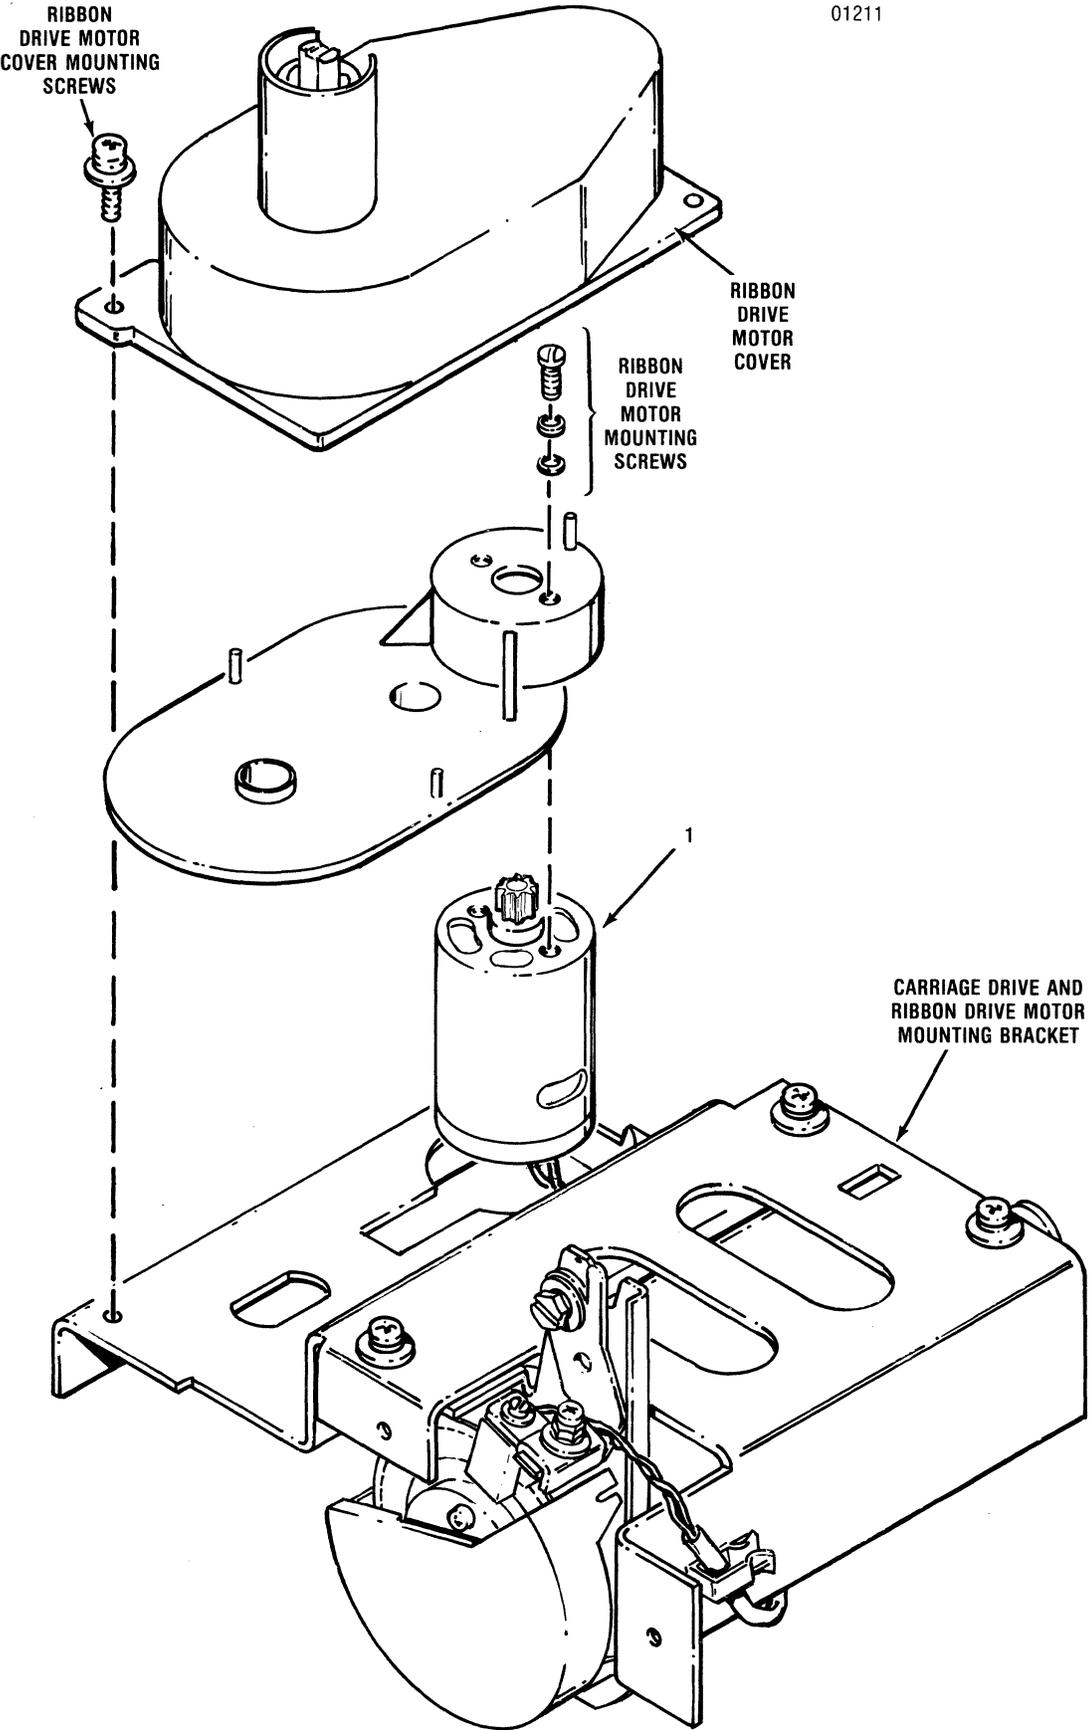
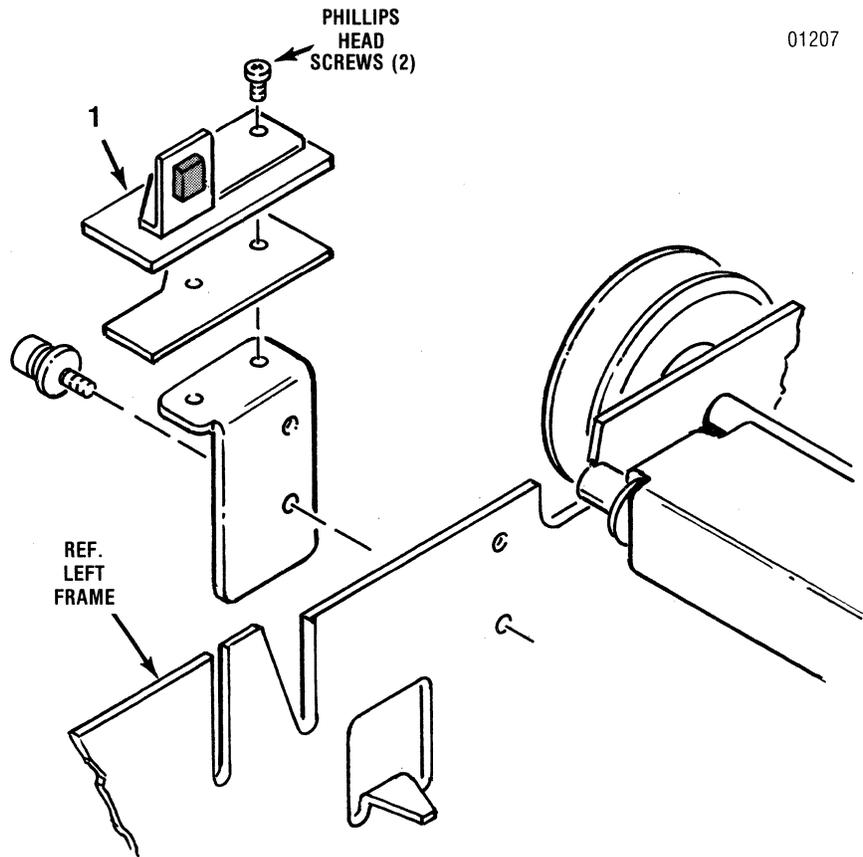

Figure 5-14 Removal/Replacement, Ribbon Drive Motor
Figure 5-15 Removal/Replacement, Cover Interlock Switch
The ribbon drive motor, item 1 of Figure 5-14, is removed using a Phillips head screwdriver and a flat blade screwdriver. To remove the motor, refer to Figure 5-14 and perform the following steps:
3. Remove the two slotted head screws mounting the ribbon drive motor and remove the motor (1) and attached cables from the bracket.
The cover interlock switch, item 1 of Figure 5-15, is attached to the left frame and is removed using a Phillips head screwdriver. To remove the
cover interlock switch, refer to Figure 5-15 and perform the following steps: